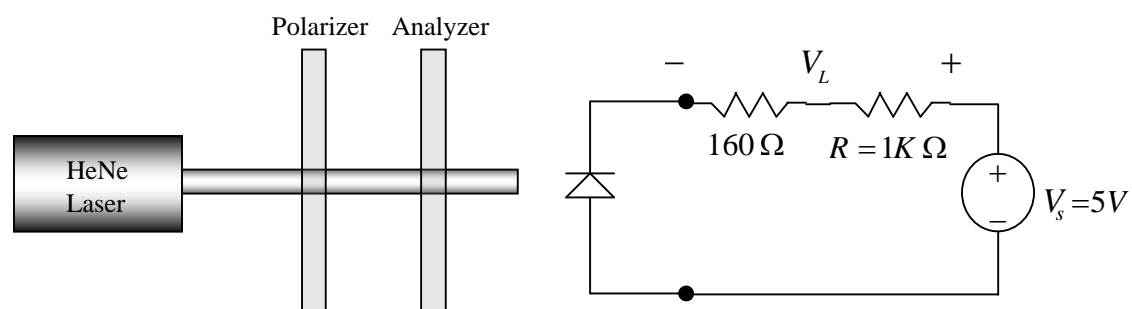

Figure 7: Setup Used for Photodiode Linearity Measurements.
- 1- Refer to the experimental setup shown in Figure 7.